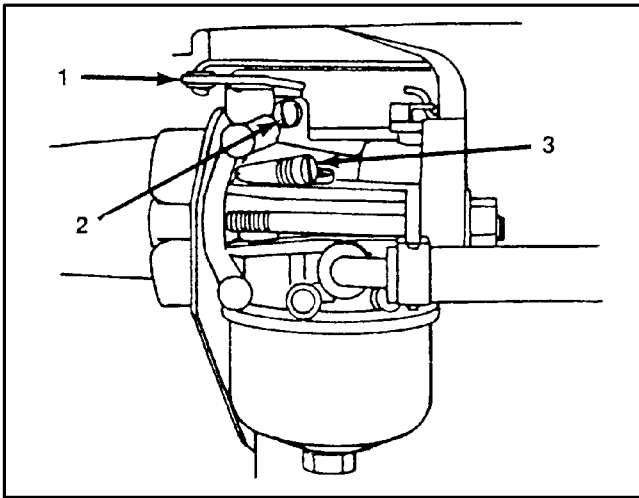

Figure 19
1. Gently turn the idle mixture valve clockwise until it **just** closes (Fig. 19). Turning the valve in too far may cause damage.
4. Turn the throttle (Fig. 19) counterclockwise and hold against idle speed adjusting screw (Fig. 19) while turning the idle speed adjusting screw to obtain 1750 rpm.